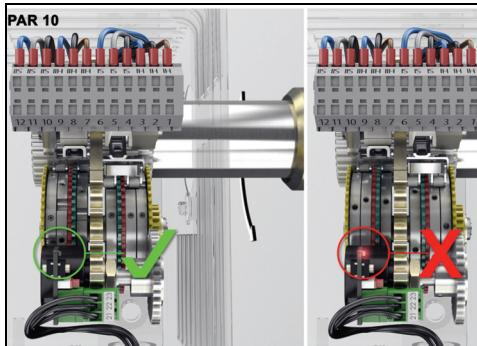

Fig. 28
- The red and green LEDs flash alternately when the rotation direction is set incorrectly. Then set the direction of rotation switch again. The LED does not output a signal when the rotation direction is correct (see Fig. 28).